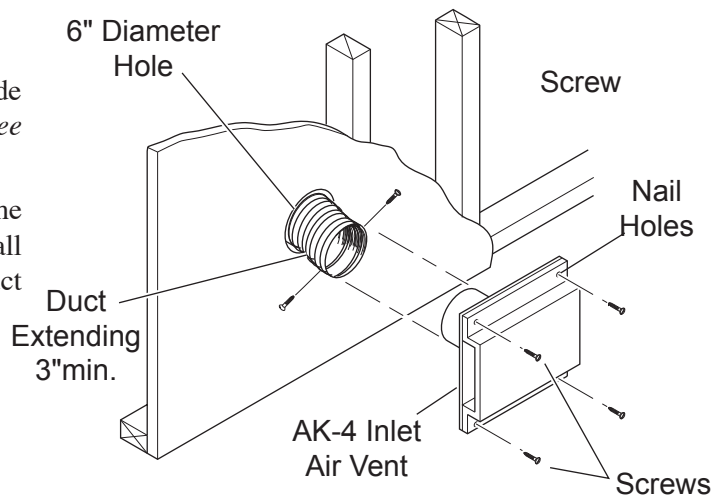

Figure 34 - Combustion Air Assembly for Model No. AK-4
5. Cut a 6-inch diameter opening for model AK-4 in the outside wall covering where the outside vent is to be located. *See Figure 34.*